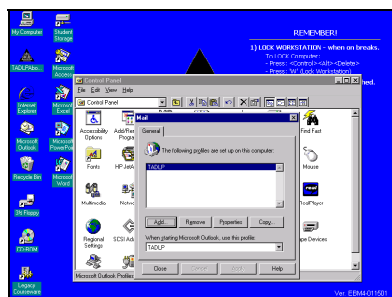

FIGURE II.12
- 12) Press the close button to exit the "Mail" window and go to the control panel. (see figure II.12)